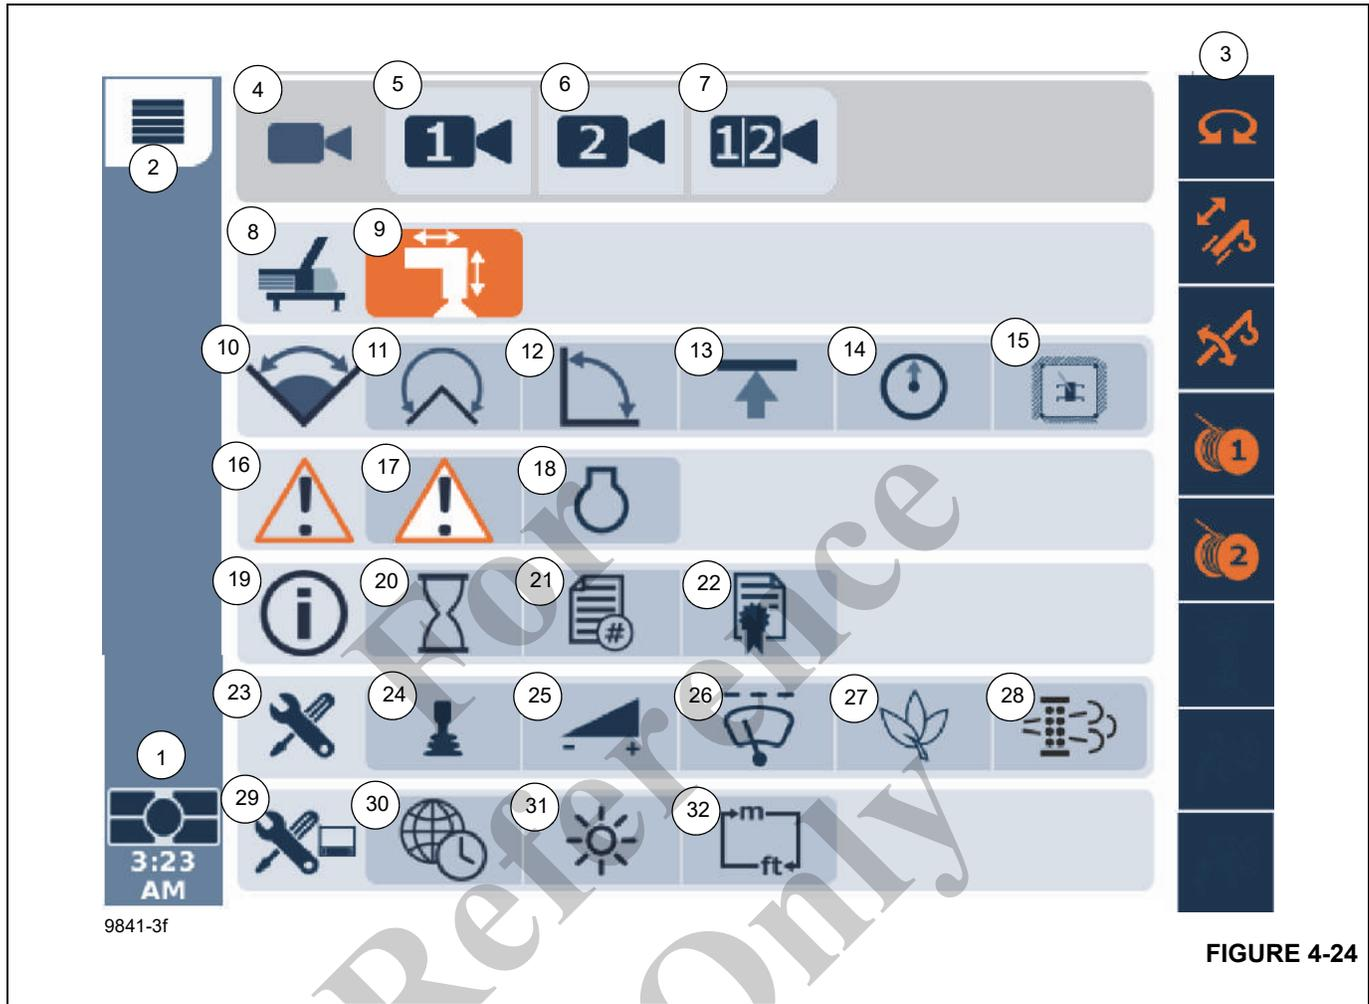
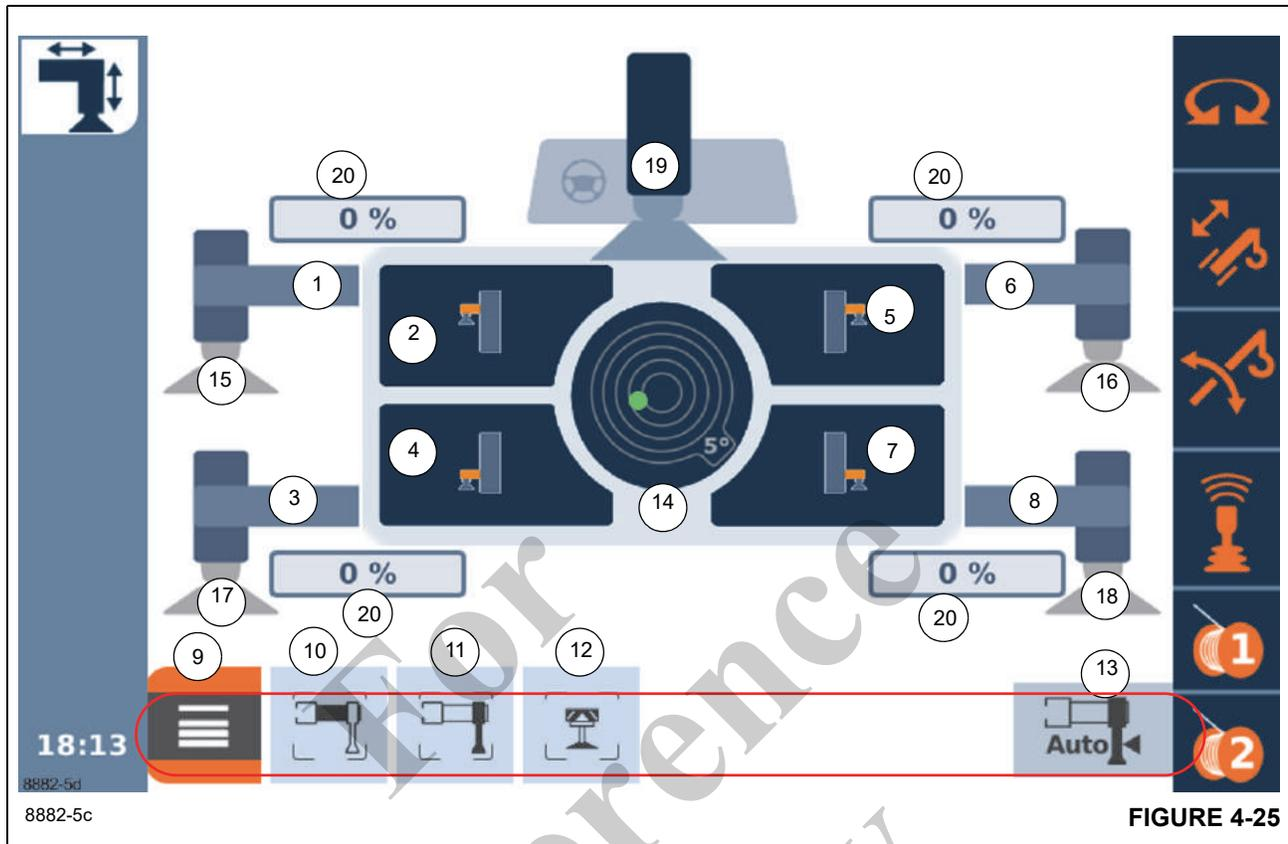

FIGURE 4-24
FIGURE 4-25
The Menu Screen (Figure 4-24) of the ODM is accessed by doing one of the following:
- **Camera Group Menu (Optional)** (4), (Figure 4-24) (Refer to *Camera Group (Optional) Display on ODM*, page 6-15 for additional information).
- **Crane Function Group Menu** (8), (Figure 4-24) (Refer to *Crane Function Group Menu*, page 4-42 for detailed information).
- **Working Range Limiter (WRL) Group Menu** (10), (Figure 4-24) (Refer to *Working Range Limiter (WRL) Menu Group*, page 4-48, for detailed information)
- **Errors (Fault Code) Group Menu** (16) (Figure 4-24) (Refer to *Using the Rated Capacity Limiter Display Module (RDM)*, page 4-82 for detailed information)
- **Information Group Menu** (19), (Figure 4-24) (refer to *Information Group Menu*, page 4-70, for detailed information)
- **Tools Group Menu** (23), (Figure 4-24) (Refer to *Tools Group Menu*, page 4-74 for detailed information)
- **Tools User Settings Group Menu** (30) (Figure 4-24)
The Camera Group Menu (4), (Figure 4-24) includes the Camera View 1 (5), Camera View 2 (6), and Camera View 1 and 2 (7), (Figure 4-24). For additional information, refer to *Camera Group for Crane Operation (Optional)*, page 6-14.
The Crane Function Group Menu (8), (Figure 4-24) includes the Outrigger Group Function (9), (Figure 4-24) and (Figure 4-25).
The Outrigger Group (9), (Figure 4-24) is used to deploy and monitor the outriggers. The Outrigger Extend/Retract Function Screen (9), (Figure 4-25) is used to extend and retract the outrigger beams and jacks.
Access the Outrigger Group Function screen (Figure 4-25) of the ODM by doing one of the following:
Using the Jog Dial (5), (Figure 4-22) to select the Outrigger Group Function Icon (Figure 4-25). **Note:** The Outrigger Group Function Screen Icon is shown in the top left of the screen (Figure 4-25).
Using the Arrow Buttons (4), (Figure 4-21), choose and select the Outrigger Group Function Icon (Figure 4-25), then press the OK Button (6), (Figure 4-22) to activate the desired function.
The Outrigger Group Function screen will appear as shown in the red circle in Figure 4-25. A Table of the Outrigger Icons follows:
Control Pad, select the O/R Beam Icon (Figure 4-25) (Icon will turn orange when selected).